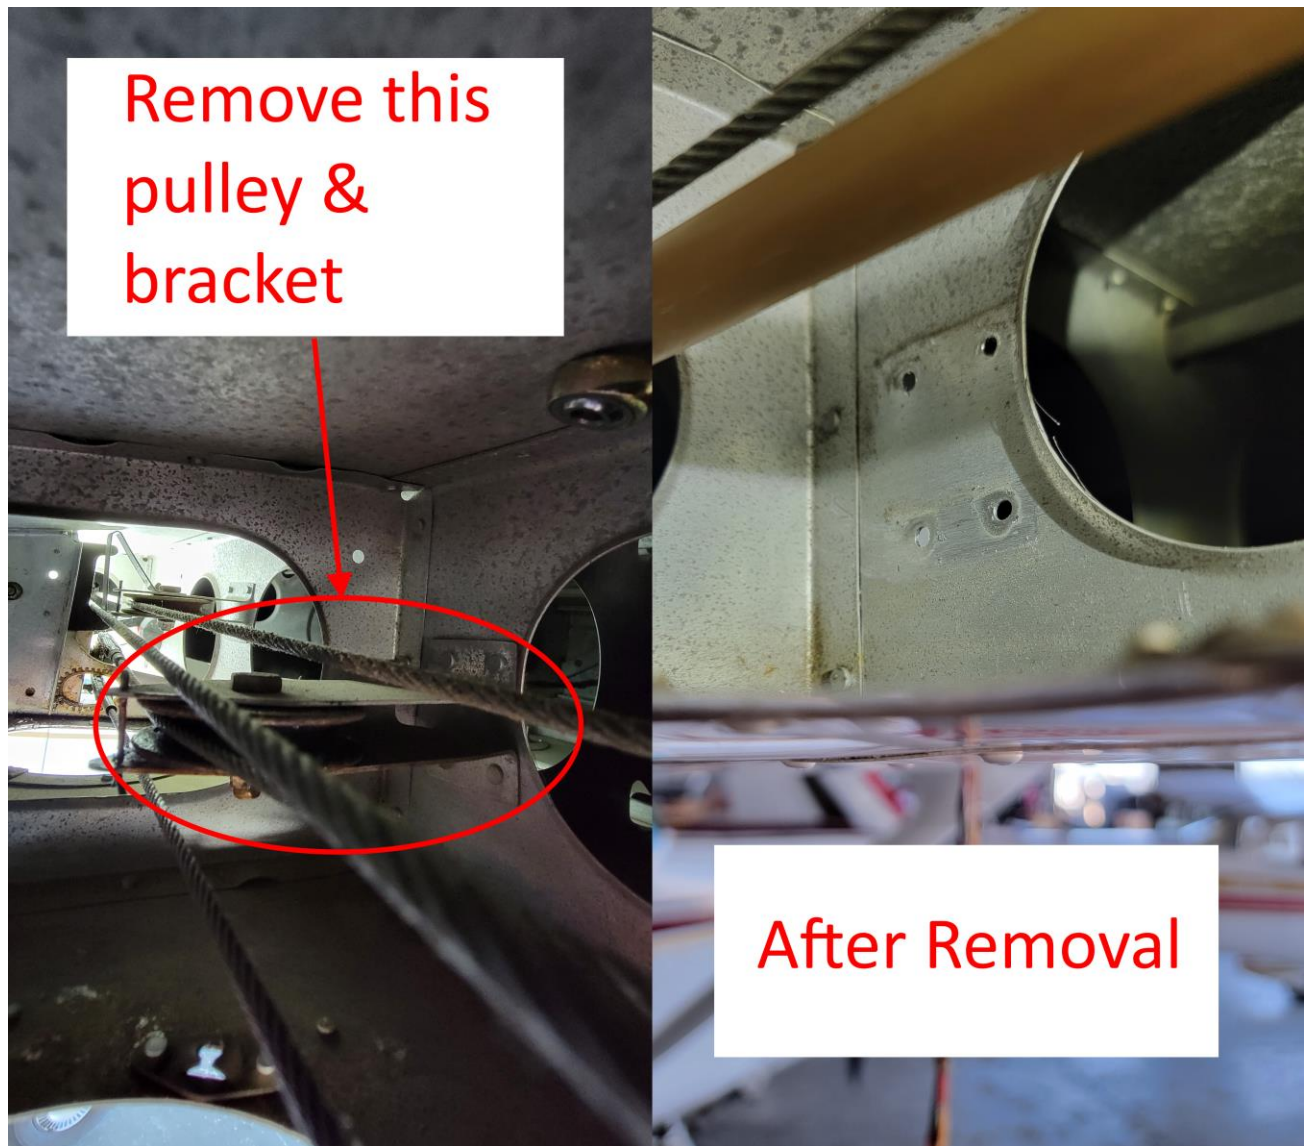

FIGURE 2-1 REMOVE THIS PULLEY & BRACKET
3. Remove the cable guide pulley and bracket, located at RH WS 118.25 by removing the attachment bolts or drilling out the attachment rivets common to the guide wheel bracket and the aft spar web. Refer to Figure 2-1.